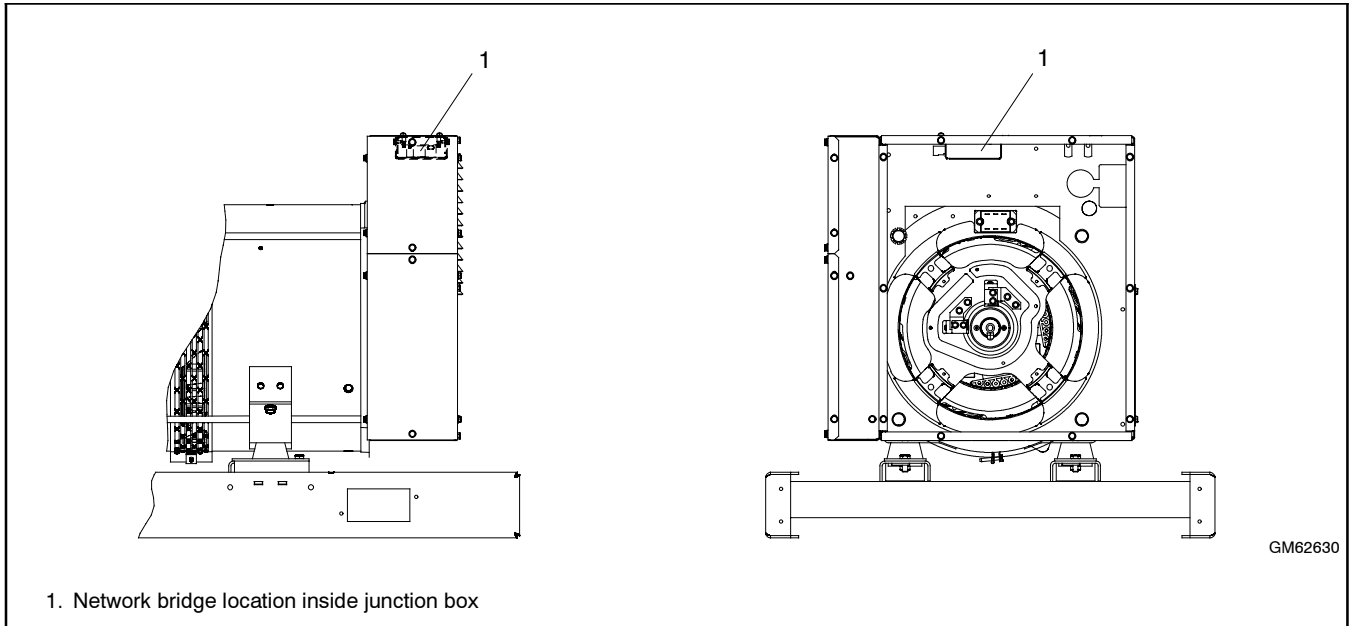

Figure 18 15/30RESA/REYG Network Bridge Installation
- a. Remove the junction box panel to gain access to the inside of the junction box. See Figure 18.